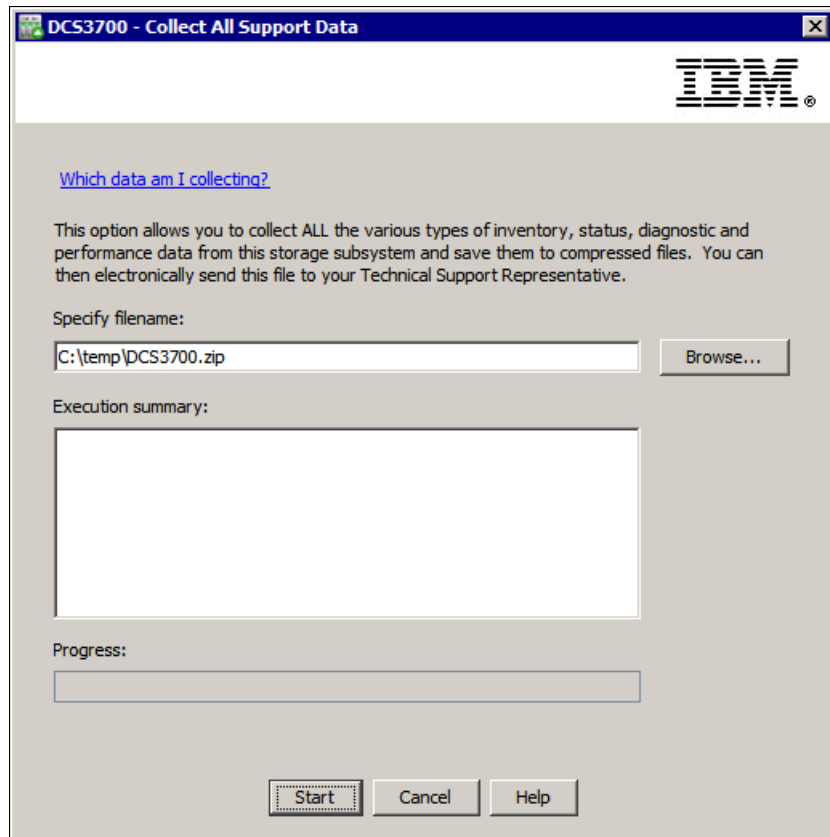

Figure 13-10 Collect All Support Data - specify the file name and folder location
1. Open the Collect All Support Data window and click **Browse** to specify the file name and folder location where the wizard saves the collected support data, as shown in Figure 13-10 on page 395.
2. Click **Start** to begin the data collection, as shown in Figure 13-10.